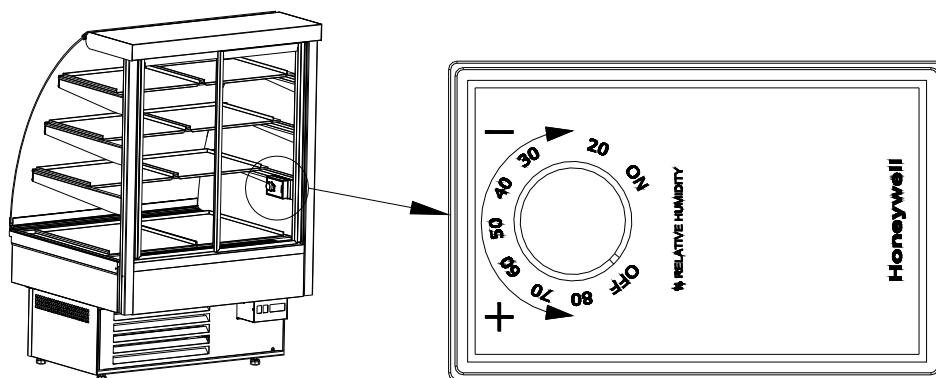

Fig.7 Hygrostat
- In case of display cabinets equipped with hygostat (it does not concern Carel thermostat) it is possible to set the desired humidity inside the device by means of knob Fig.7 \(p.
Hygrostat is used to control humidity, when the temperature within the display cabinet shall fall between 10°C and 15°C. We may adjust the desired air humidity in the display cabinet, with the help of hygrostat knob, within the range between 30 and 80% by turning the knob *Fig.7 (p. 11)* and setting it in a proper place. Turning the knob clockwise will decrease the set air humidity, and turning it in the opposite direction will increase the set air humidity. Turning the knob left to the final position shall switch off the hygrostat, despite the **active power supply**.